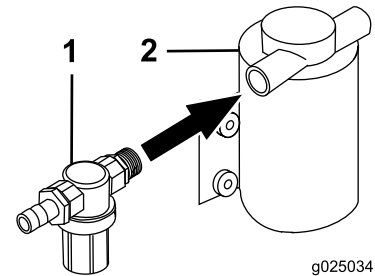

Figure 12
6. Attach the pressure filter assembly to the rinse pump (Figure 12).